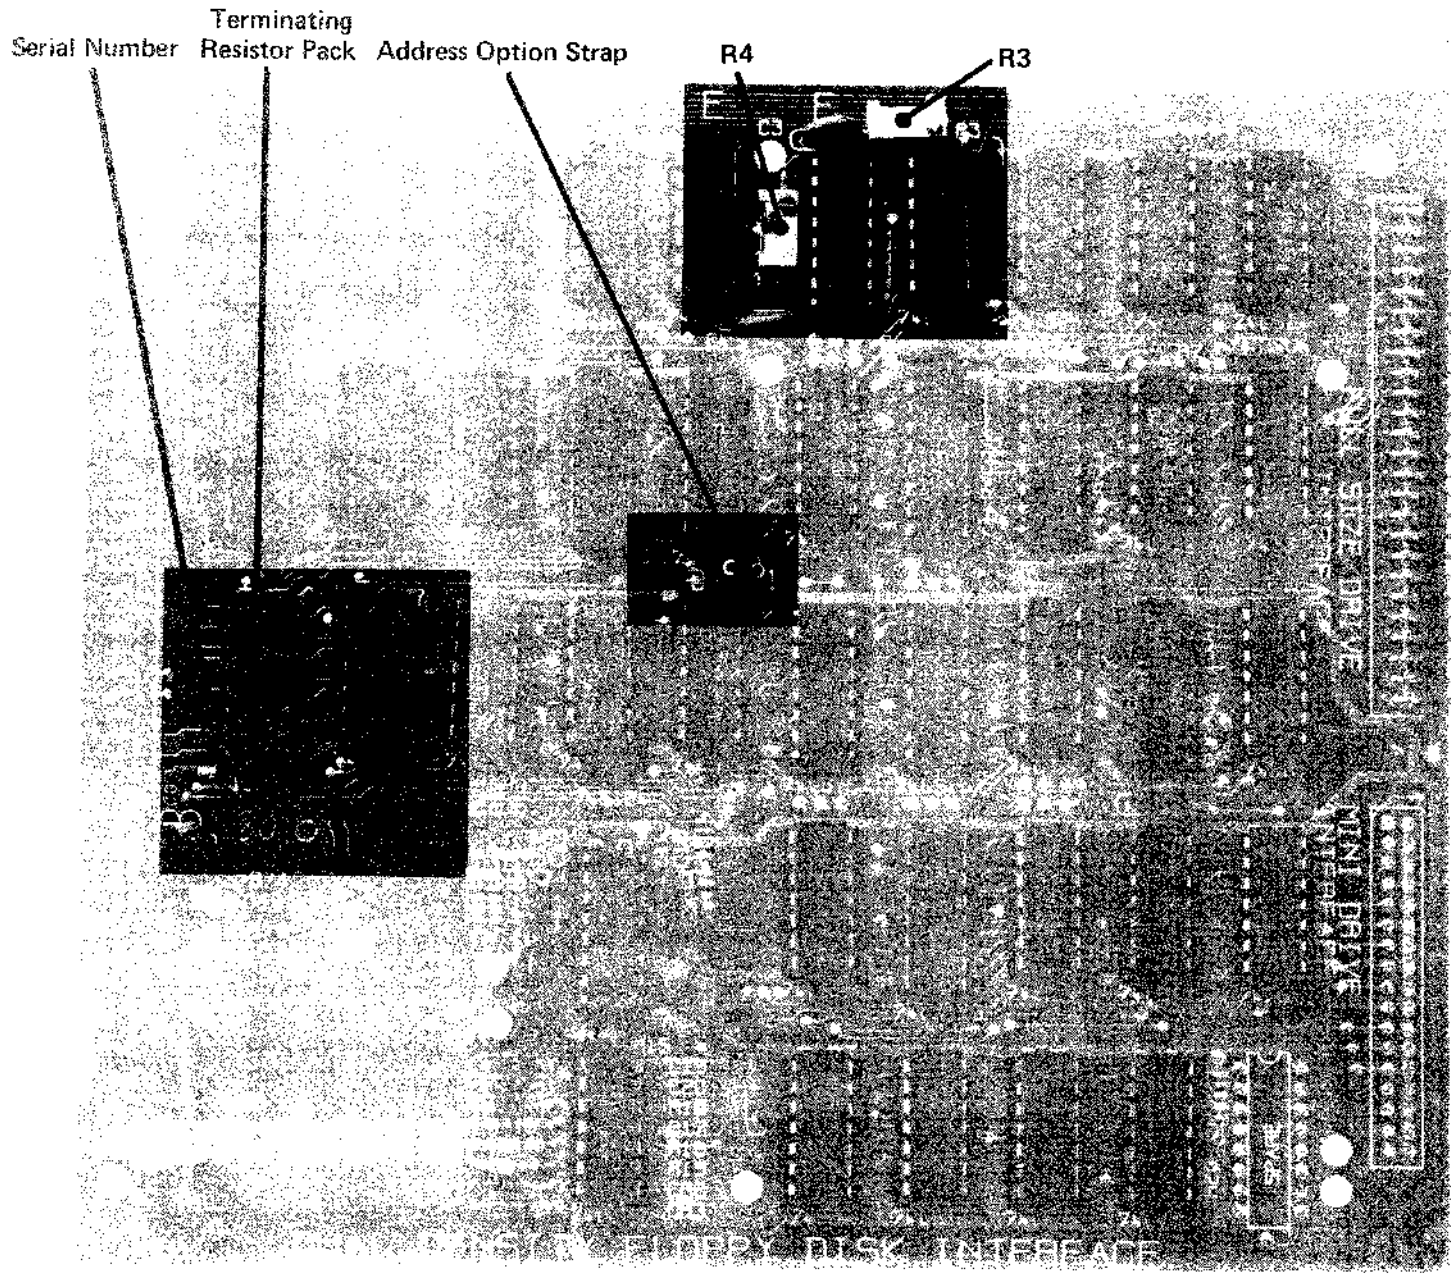

Figure 2-3 – 5010 Unit Auxiliary Disk Controller – 801900
(2) The Auxiliary Disk Controller, 801900, is installed in the 5010 Dual Diskette Storage Unit. Refer to Figure 2-3.